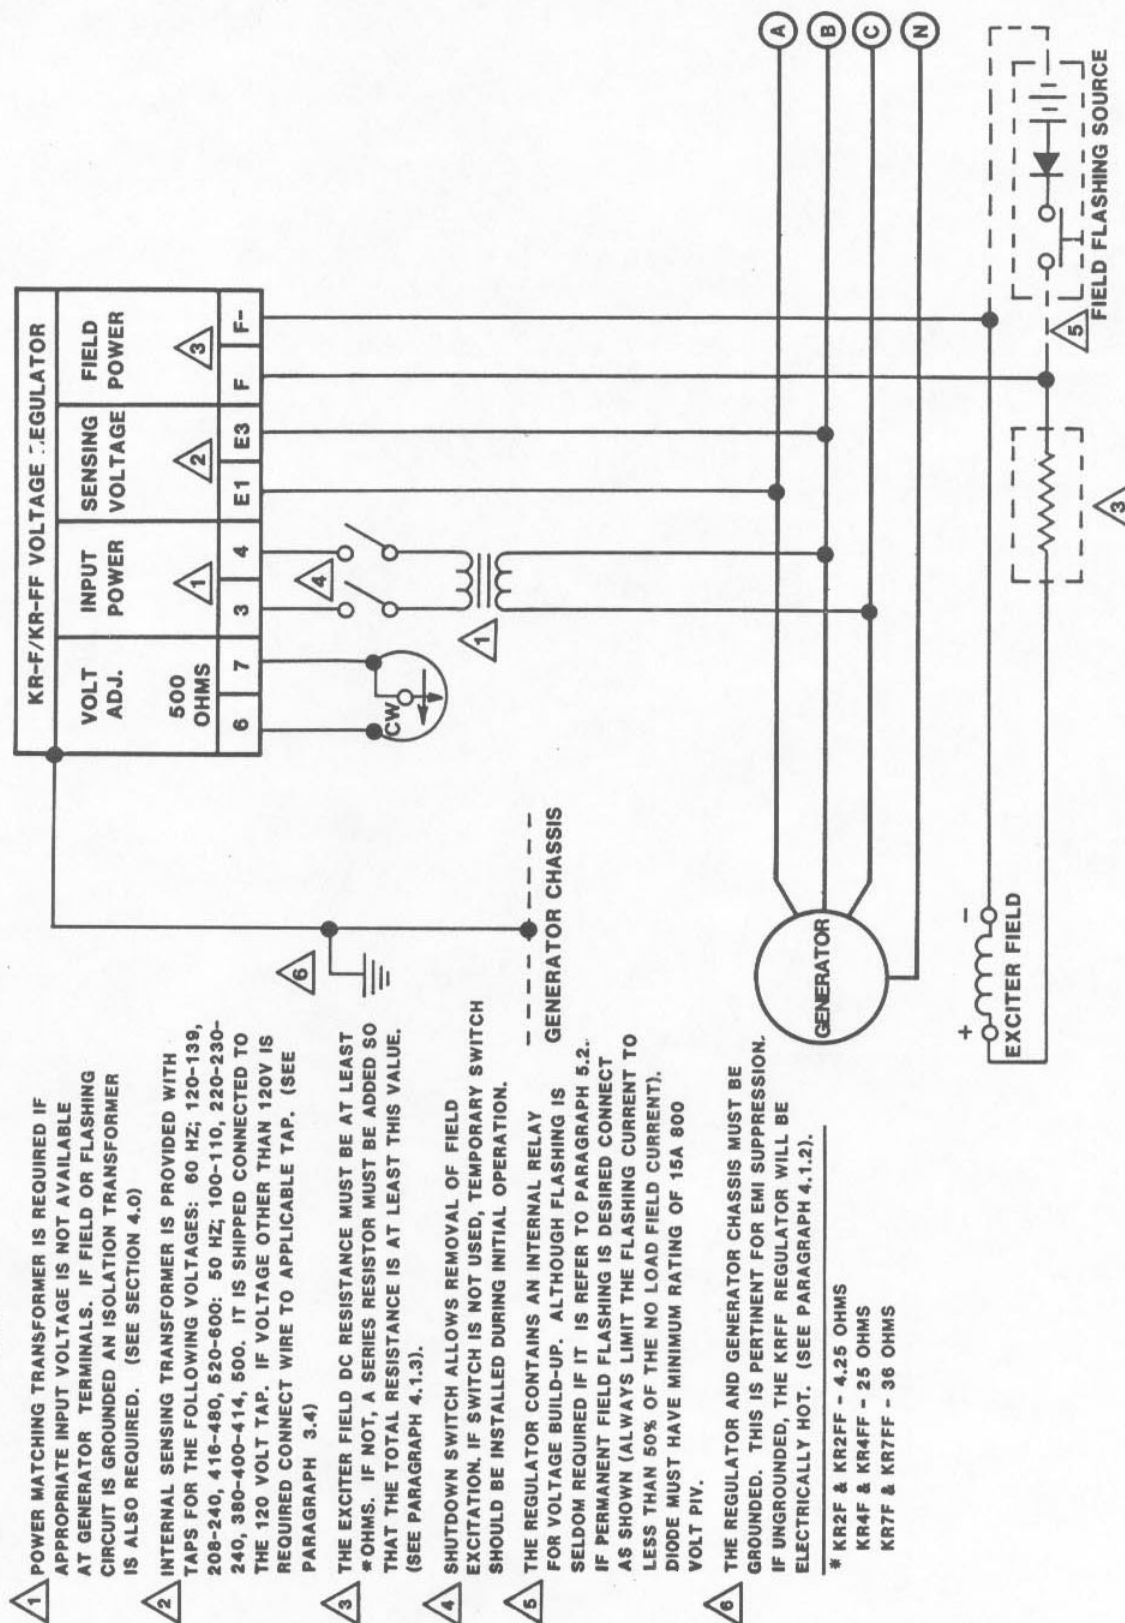

Figure 4-1. Interconnection Diagram (Typical).
This 500 ohm, 25 watt rheostat is supplied as a separate item for panel mounting. It provides adjustment of the regulated generator voltage $\pm 10\%$ of nominal. When connected as shown in Figure 4-1 adjusting it to its maximum resistance position (CCW), minimum generator voltage is obtained. Maximum generator voltage is obtained with minimum resistance (CW).
When nominal 50 hz sensing voltages are required, this control is used to establish the desired nominal sensing voltage. This is done in the following manner: (1) set the External Voltage Adjust Rheostat (paragraph 3.1) to the middle of its adjustment range, (2) insure that the appropriate sensing voltage connection is made (paragraph 3.4) and that the 50 Hz connection is made (paragraph 3.5), (3) with the regulator properly connected into the system (Figure 4-1) bring the generator up to rated frequency (50 Hz), (4) while watching the generator voltmeter, adjust the Internal Voltage Range Adjustment until the nominal generator voltage is obtained. (Voltage increases with CW rotation). After the Internal Voltage Range Adjustment has been properly set, the External Voltage Adjust Rheostat will provide voltage adjustment $\pm 10\%$ of nominal. NOTE: This voltage range adjustment capability exists with 60 Hz operation as well.
4.1 INTERCONNECTION (See Figure 4-1)
The regulator connects with the generator system as shown in the overall interconnection diagram, Figure 4-1. Number 14 gauge wire or larger should be used for connections to the voltage regulator.
This section contains operation and adjustment procedures. Before operating, make certain that the regulator is connected into the system as shown on the Interconnection Diagram (Figure 4-1). Even momentary operation with an incorrect connection can damage this control equipment.